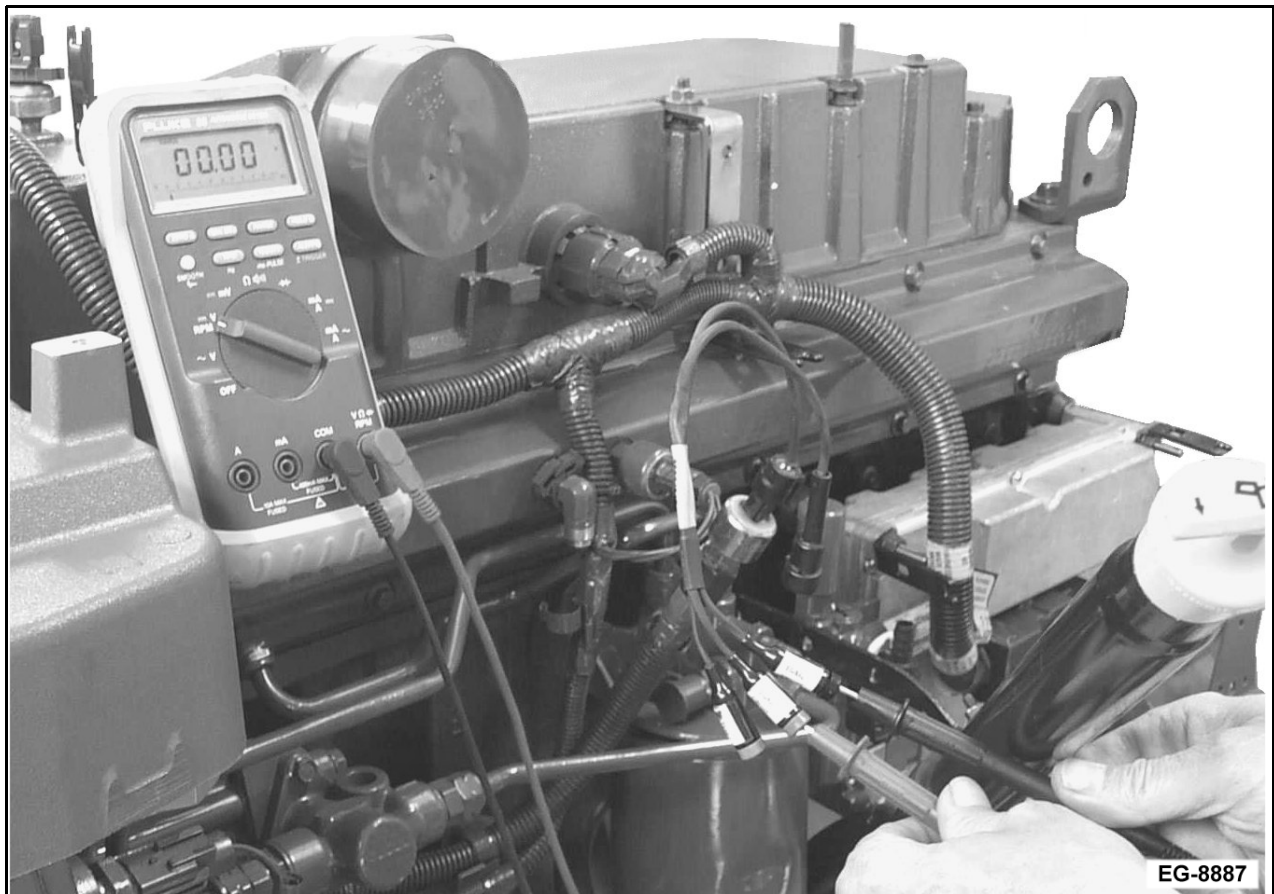

Figure 47 Low ICP Pressure Test
3. Disconnect high pressure oil hose from the high pressure oil manifold and install the adapter from Hydraulic Fitting Kit into the end of the high pressure hose (See Figure 47, page 85).